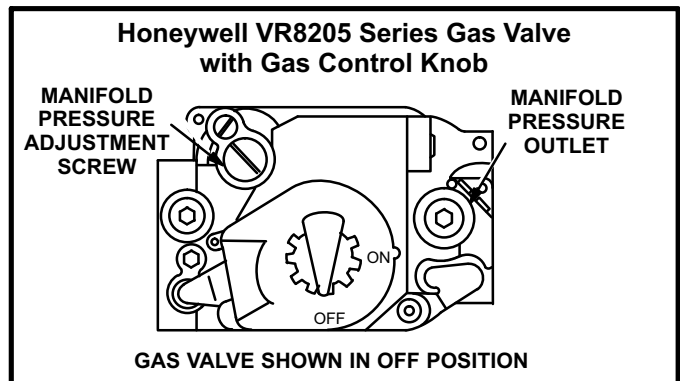

FIGURE 23
*Honeywell VR8205 Gas Valve with Control Knob* - Turn knob on gas valve clockwise ➡ to **OFF**. Do not force. See figure 23.
*Honeywell VR8205 Gas Valve with Control Knob* - Turn knob on gas valve counterclockwise  to **ON**. Do not force. See figure 23.
*Honeywell VR8205 Gas Valve with Control Knob* - Turn knob on gas valve clockwise  to **OFF**. Do not force. See figure 23.